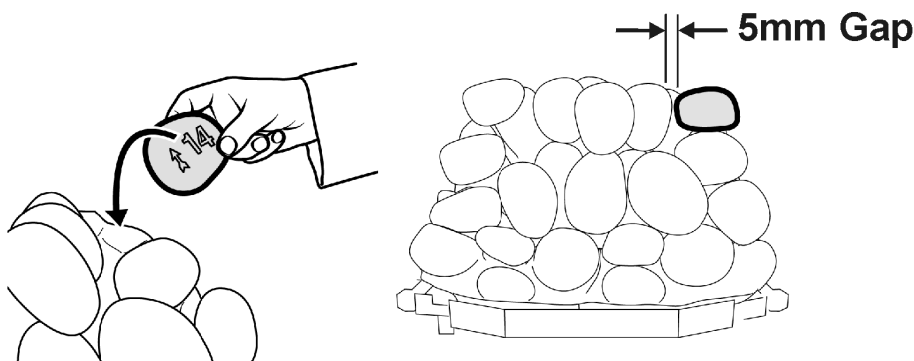

Figure 42. Fourth row "Pebble 14"
24. Hold pebble '14' upright with the arrow pointing to the top. Locate pebble '14' as shown in figure 42. Leave a 5mm gap between pebble 14 and the pebble to its left.